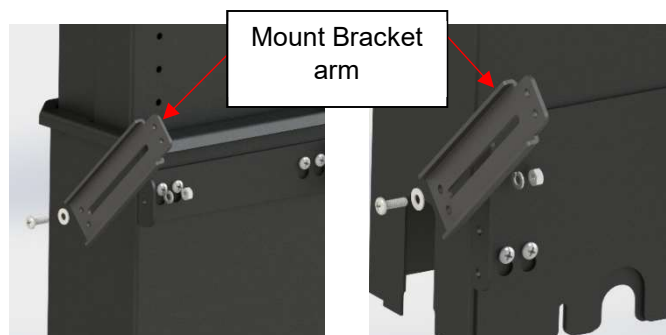
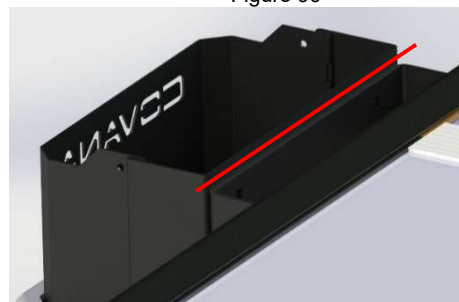

Figure 90
Figure 91
- 2) Install the top and bottom mount bracket arms on one of the sleeves (Figure 90). Gently place the sleeve on the ground so it's in contact at the top with the post mount bracket (Figure 91). Make sure it is straight. With the sleeve and its arms, choose the position of the tub mount bracket. Put the top tub mount bracket 1/4" from the acrylic of the swim spa. Position the bottom one so the arms are as horizontal as possible.